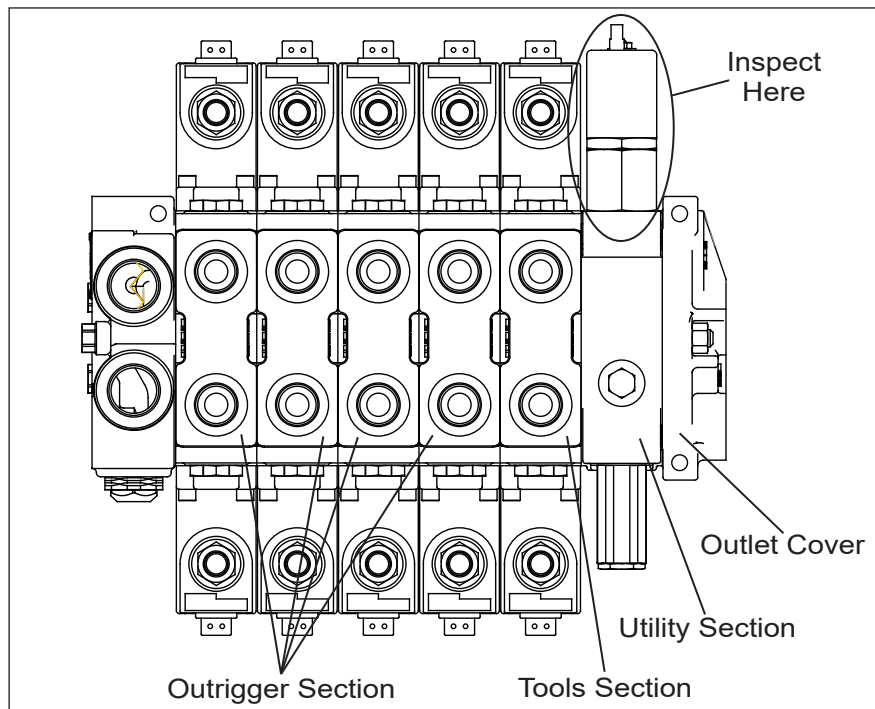

Figure 1 — Outrigger/Tools Control Valve
3. Find the outrigger/tools control valve inside the pedestal (refer to Figure 1).
4. Inspect the side of the utility section on this valve, located between the tools section and the outlet cover as shown in Figure 1.